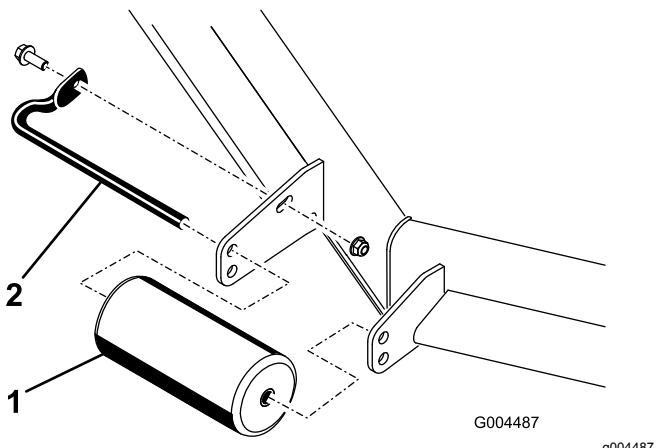
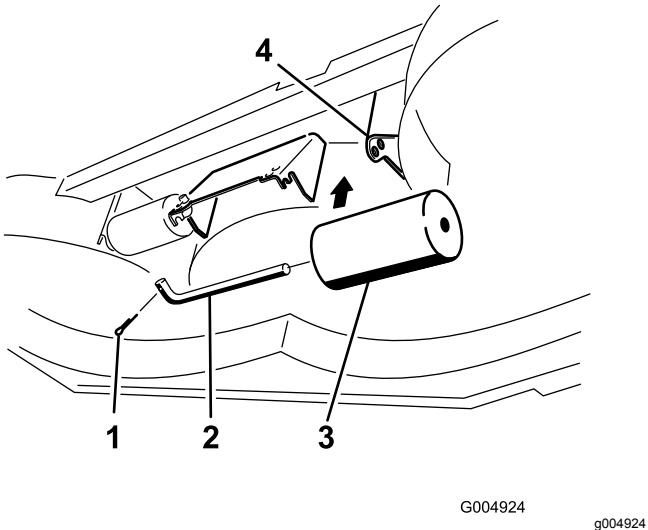

Figure 47
Figure 51
4. Remove the fasteners securing each roller on your mower deck, and move the rollers up or down as desired; refer to Figure 47 through Figure 51 as applicable for your mower.
- 3. Under-deck roller (2)
5. Install the fasteners as illustrated in Figure 47 through Figure 51.